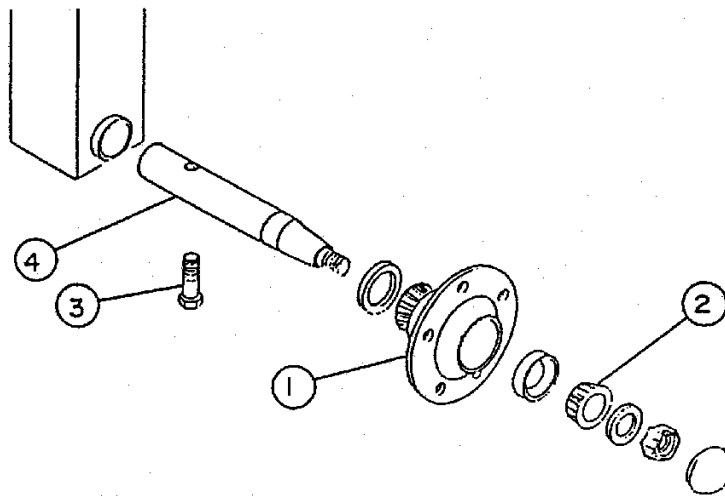

Fig. 28
- 1) Remove hub, Item 1, and bearings, Item 2. See Fig. 28